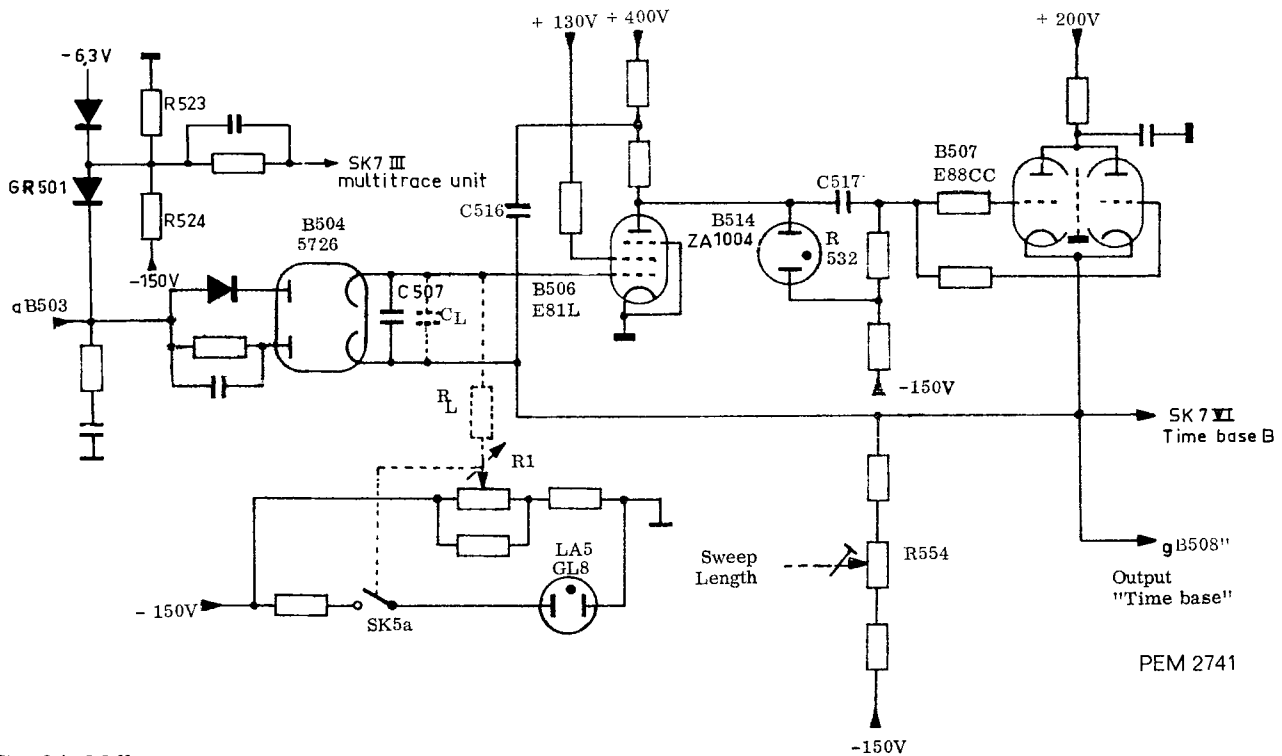

Fig. 34. Miller-circuit
4. Miller run-up circuit (Fig. 34)